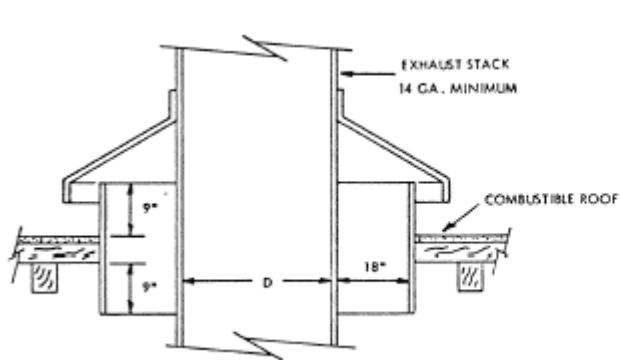

Figure 4, Smoke Stack Installation Through Combustible Roof
7.8 The Building Code Standards of the National Fire Protection Association require that where a metal stack passes through a combustible roof, such roof shall be guarded by a metal sleeve or thimble extending not less than nine inches above and below the roof, and providing not less than eighteen inches clearance on all sides of the stack. (See Figure 4)